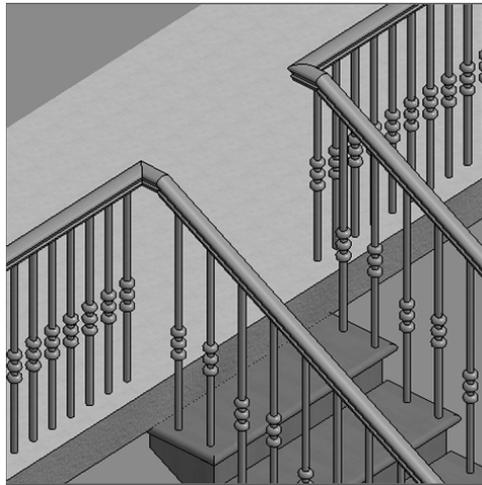

FIGURE 10.73: Both railings are in place.
7. Repeat the procedure on the other end (see Figure 10.73).
5. Copy the door 10'-0" (3000 mm) to the right (see Figure 10.73).